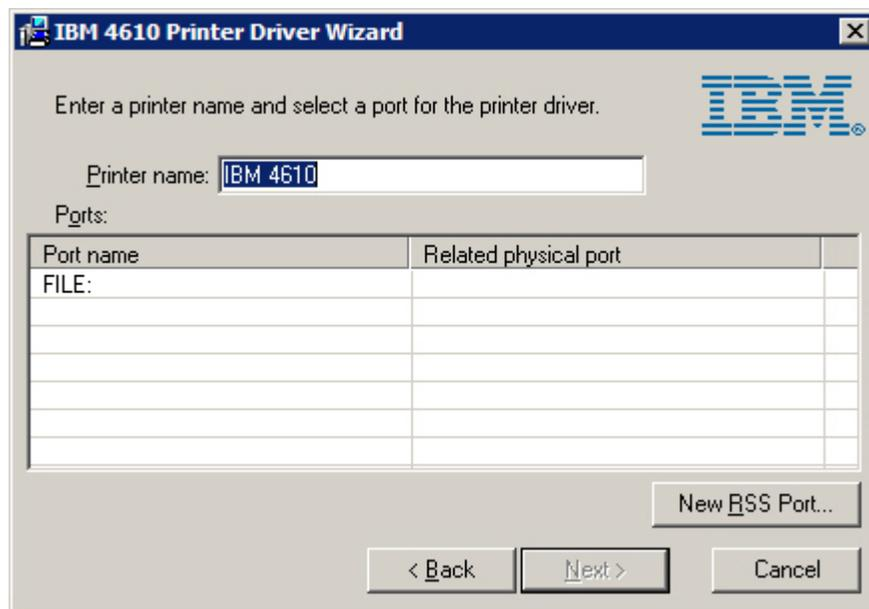

Figure 8. Setting the printer name
- Specify the printer name that you want to use (see Figure 8).